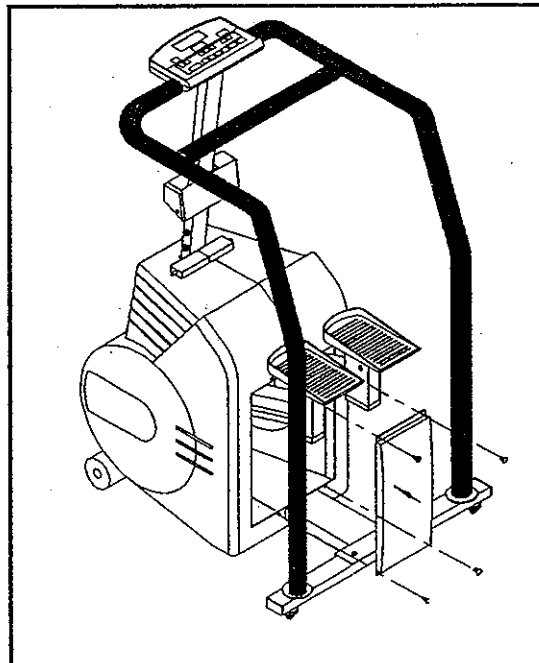

Fig.31
11. Secure the front cover with screws (see Fig. 31).